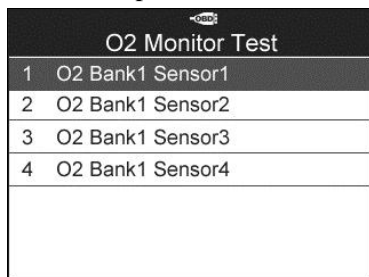

Figure 6.17
- 3) Use the **UP/DOWN** scroll button to select O2 sensor from **O2 Monitor Test** menu and press the **Y** button (Figure 6.17).